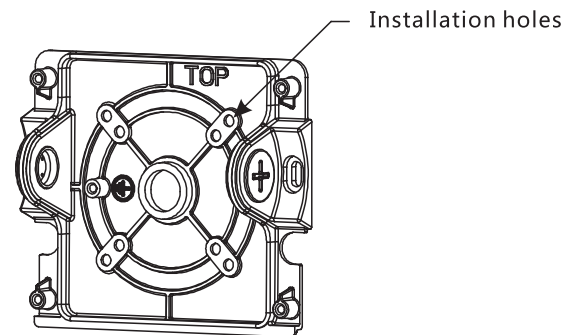

Fig. 2
2. Drill through installation holes as shown in Fig. 2